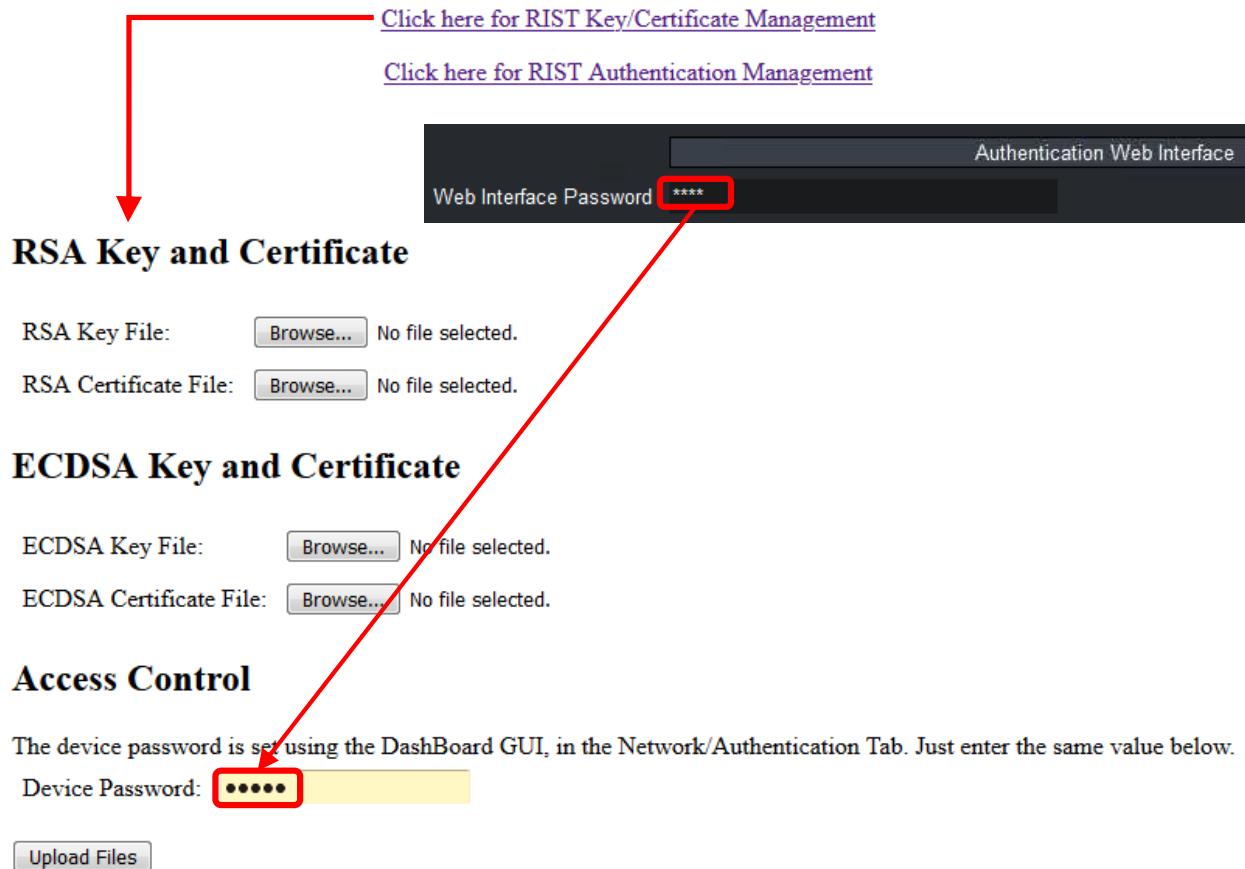

Figure 6: Uploading Keys and Certificates
In order to upload Keys and Certificates, follow the Click here for RIST Key/Certificate Management link in the web interface, as illustrated in Figure 6. For each type of encryption, you have two options:
- a. Generate matched Key/Certificate pairs (signed by the CA) for each Cobalt device, and upload these using the process shown in Figure 6.
- b. Generate a CSR in each Cobalt device using the process shown in Figure 7. Have the CA process the CSR to generate a certificate. Upload the certificate back into the Cobalt device using the process shown in Figure 6.